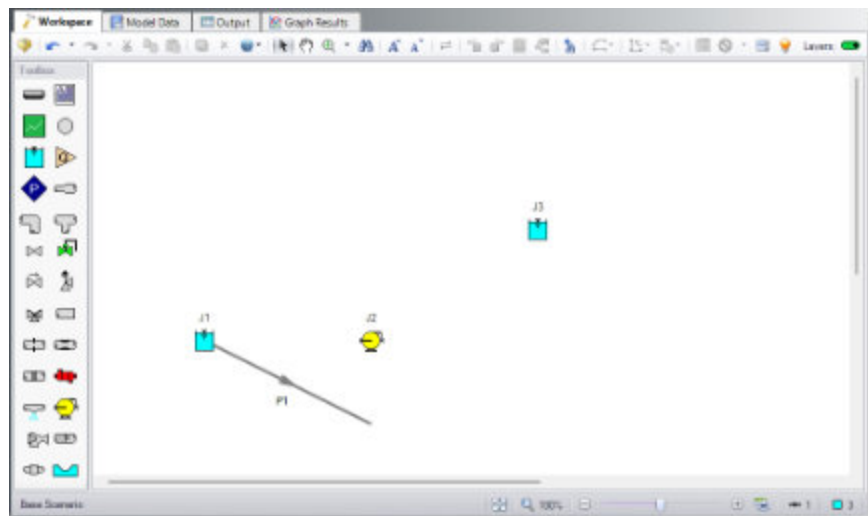
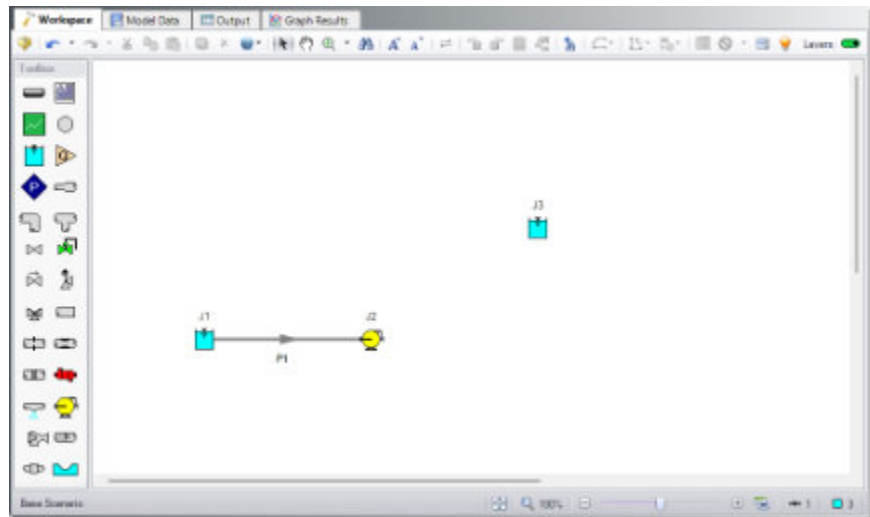

Figure 2.7 Pump Sizing model with the first pipe partially connected
Figure 2.8 Pump Sizing model with the first pipe fully connected
- **To place the pipe between J1 and J2**, click and drag the pipe so that the left endpoint falls within the J1 Reservoir junction (see Figure 2.7). Next, grab the right endpoint of the pipe and drag it until the endpoint falls within the J2 Pump icon (see Figure 2.8).